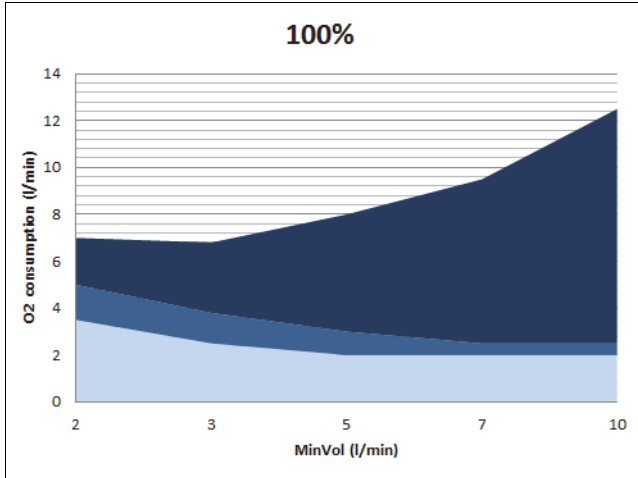

Figure 2-23. Oxygen consumption as a function of minute volume, oxygen set to 100%
- Figure 2-23 shows the values for Oxygen set to **100%**.